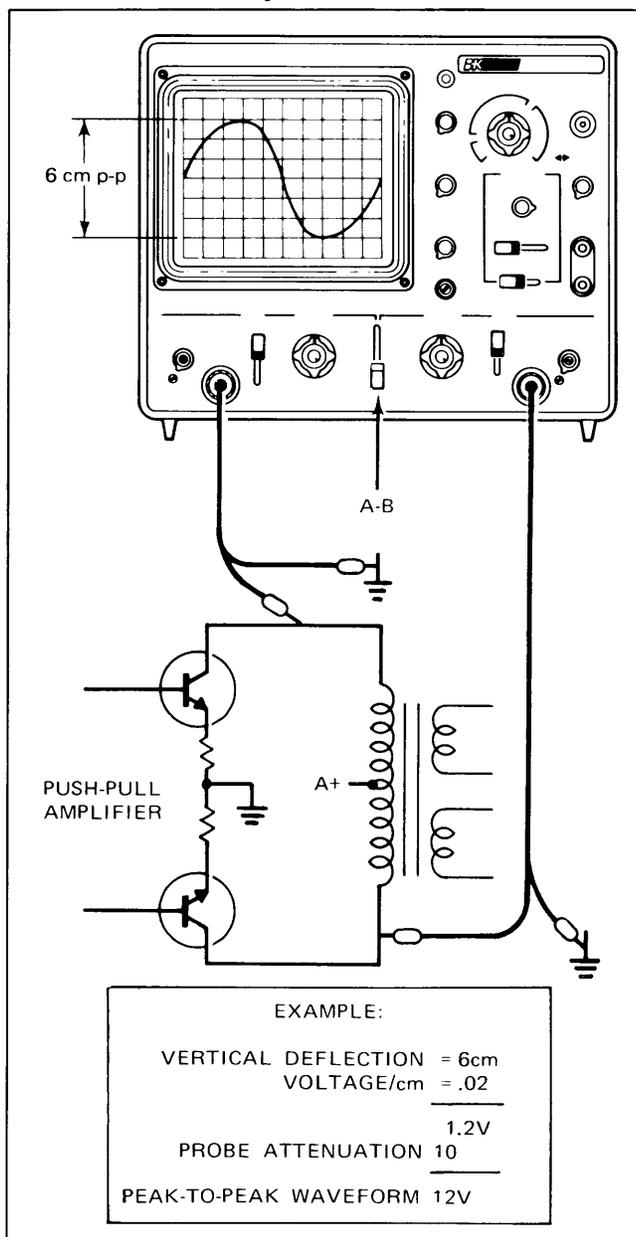

Fig. 5. Typical differential measurement.
**DIFFERENTIAL VOLTAGE MEASUREMENT (See Fig. 5)**
- Calculate the time duration as follows: Multiply the horizontal deflection (in cm) by the SWEEP TIME/CM switch 5 setting (see example in Fig. 5). Remember, when the 5X magnification is used, the result must be divided by 5 to obtain the actual time duration.